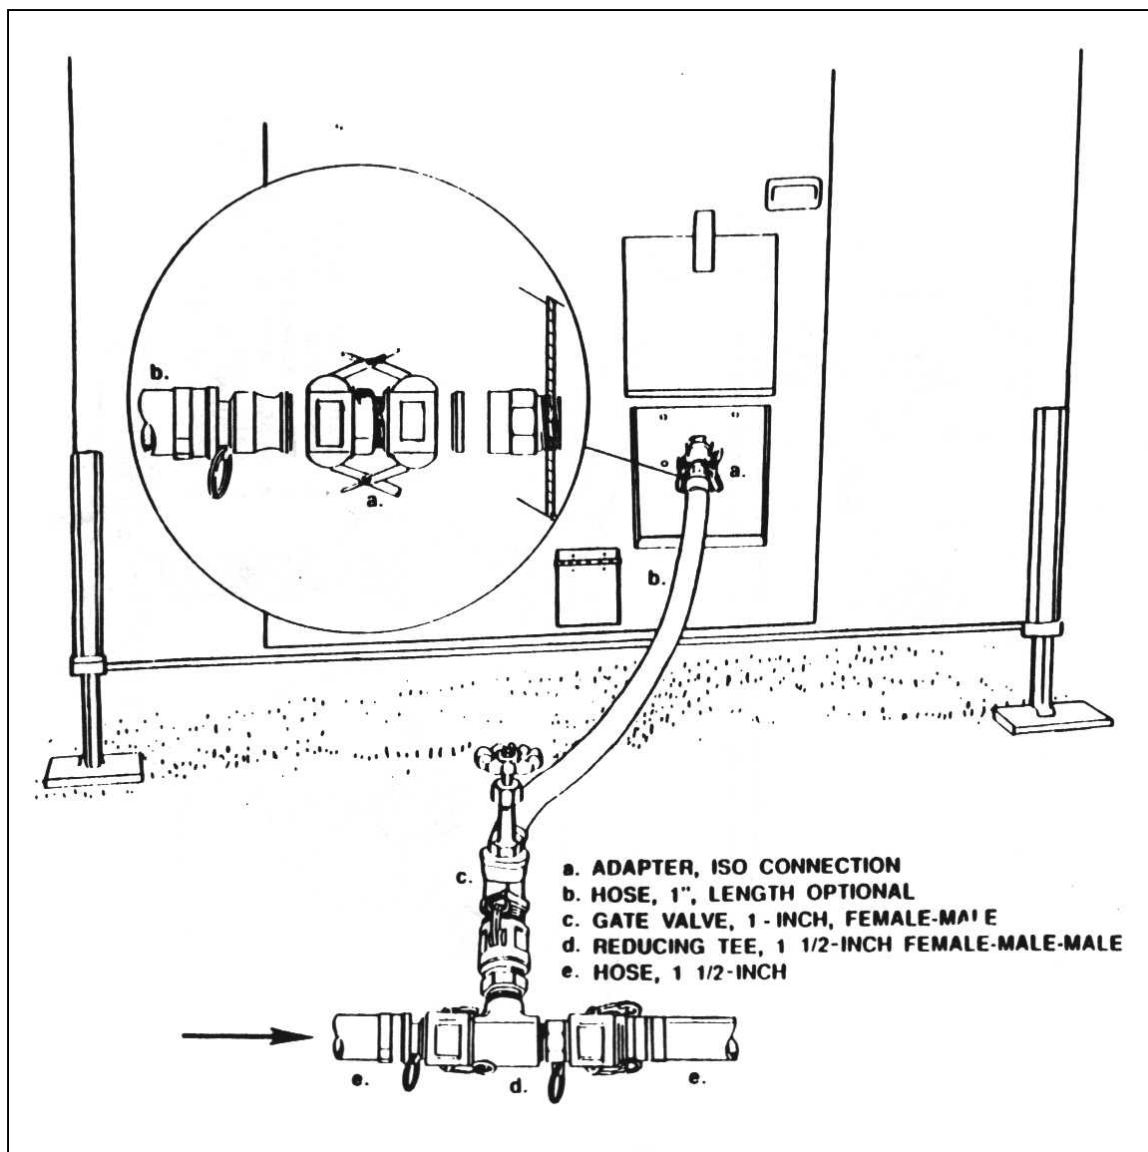
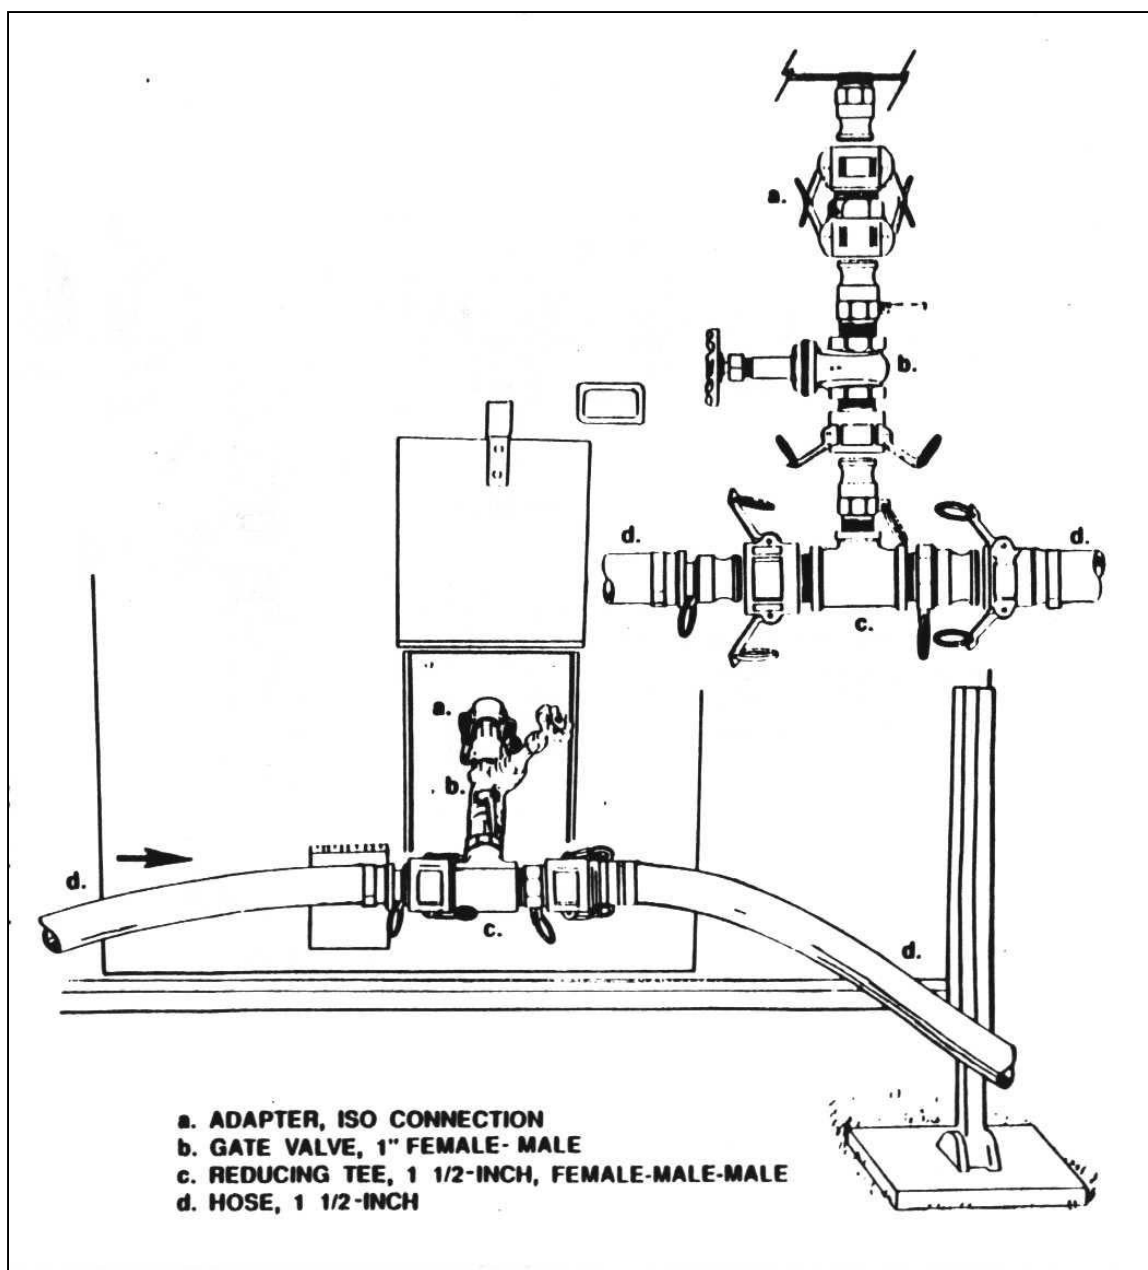

Figure 1-2
Figure 1-3
(2) Figures 1-2 and 1-3 show two different methods to make the connection between the main loop and an ISO with one water receptacle. The hose (item b, figure 1-3) is optional; you can omit it or put any length you need. Figure 1-3 shows the same configuration with the hose omitted. Do not omit the gate valve (item b, figure 1-3). It allows you to disconnect an individual ISO without disrupting the water supply to the rest of the hospital.